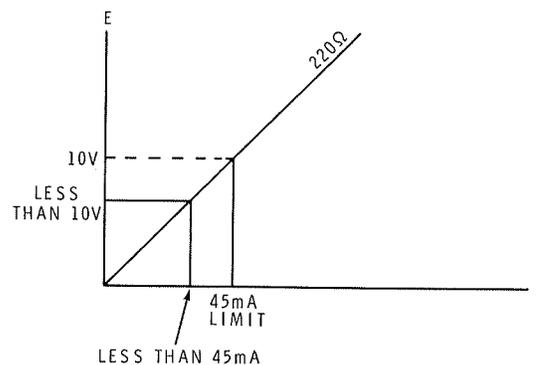

Figure 5
8. Turn the VOLTAGE control below 10 volts and note that voltage (and current) decreases (See Figure 5).